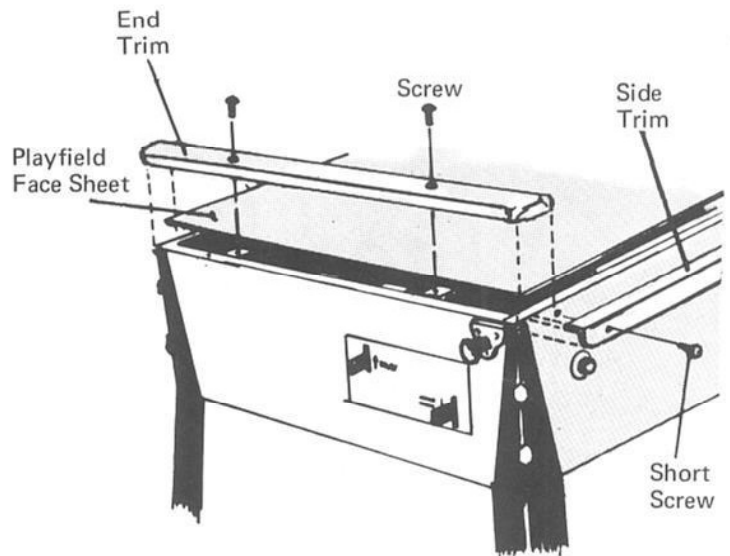

FIGURE 1
1. Remove the two screws from the end trim as shown in **Figure 1**. Set end trim and the attaching screws aside.
2. Remove the six (6) screws attaching the side trim pieces (3 screws per side trim). **NOTE:** The short screw at the foot end of unit must be re-installed in the same location when re-assembling. (See **Figure 1**). Set the two side trim strips aside.